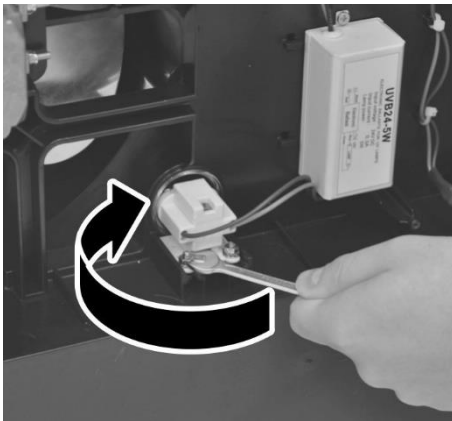

Fig. 38: Tighten the lampholder nuts
8. Tighten the nuts with a 7 mm open-end spanner (Fig. 38).